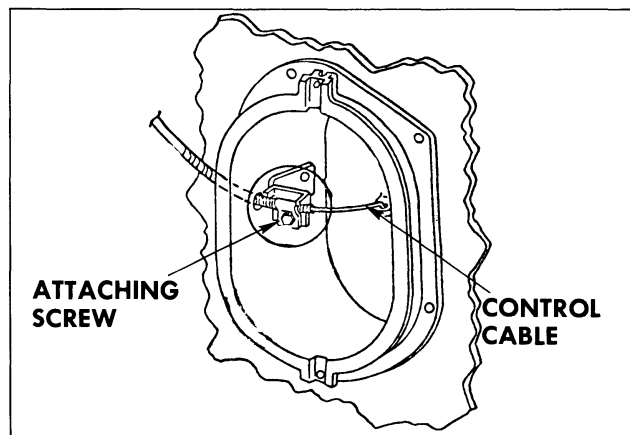

Fig. 11-14 Air Outlet Control Cable
2. Remove control cable from outlet, (Fig. 11-14) remove or loosen necessary heater parts to allow space to remove outlet assembly.